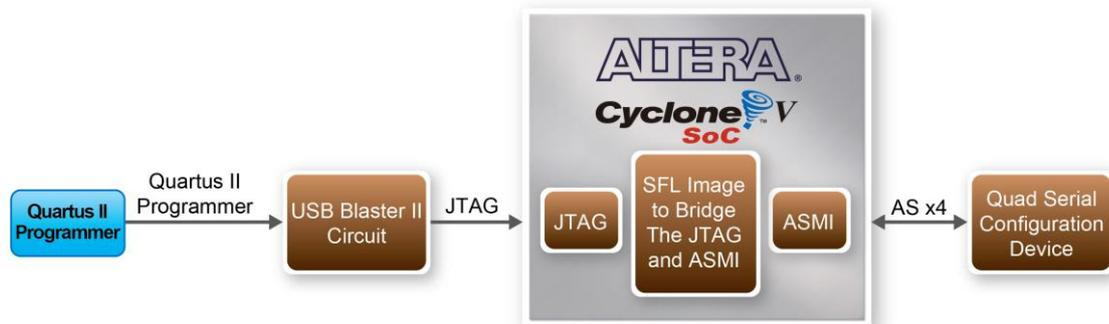

Figure 3-9 Programming a quad serial configuration device with SFL solution
- Users need to use Serial Flash Loader (SFL) to program the quad serial configuration device via JTAG interface. The FPGA-based SFL is a soft intellectual property (IP) core within the FPGA that bridges the JTAG and Flash interfaces. The SFL Megafunction is available in Quartus II. **Figure 3-9** shows the programming method when adopting SFL solution.